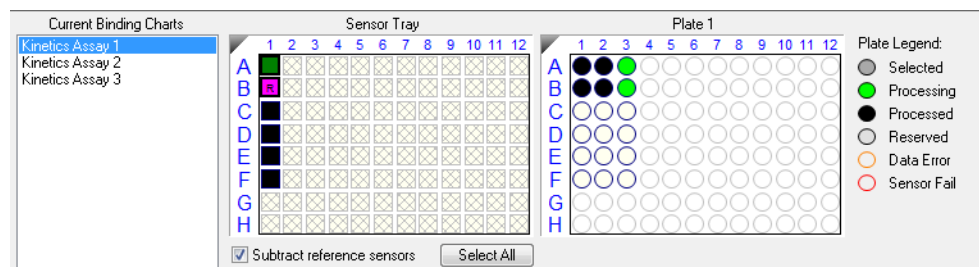

Figure 8-59: Subtract Reference Sensors check box in the Runtime Binding Chart
The selected biosensor will be shown with an **R** in the **Sensors to Chart** list and **Sensor Tray** (see Figure 8-59).
- Click the **Subtract reference sensors** check box (see Figure 8-59).